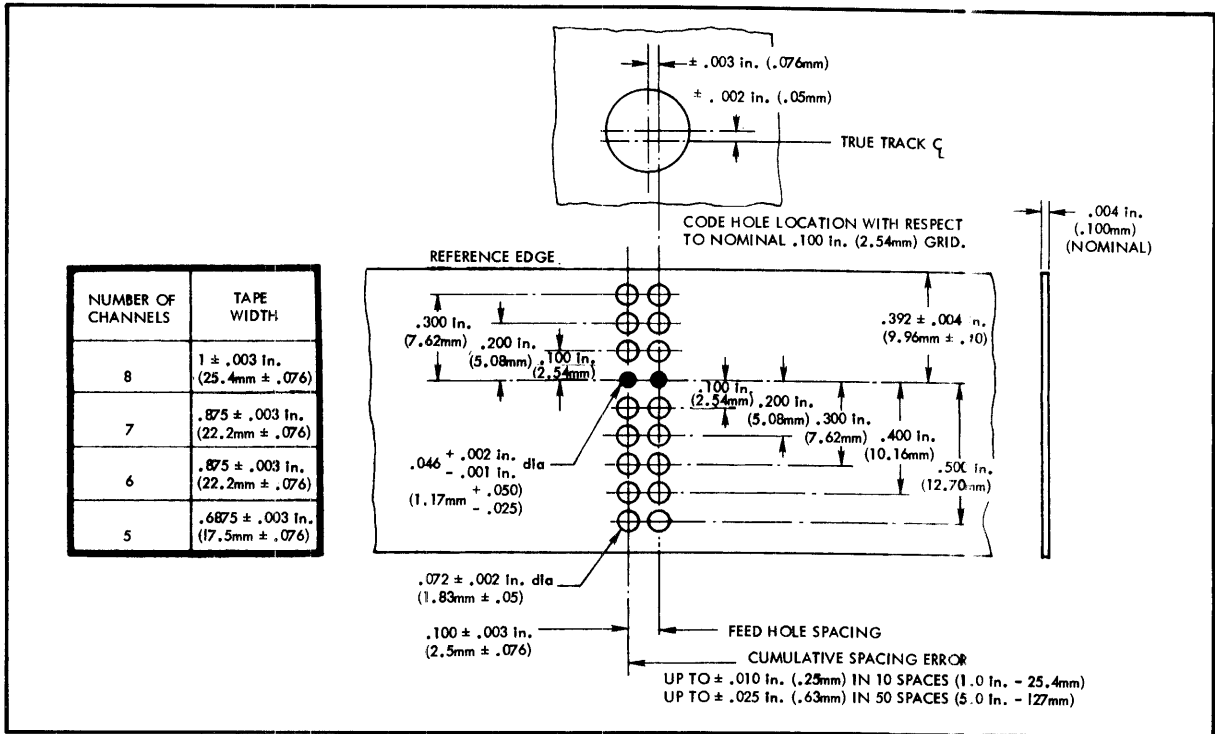

Figure 10
The Model 420 is designed to operate within the hole spacing requirements of the ANSI Specifications, as shown in Figure 10. Hole spacing may be defined in two areas: edge-to-hole (centerline of sprocket hole to three hole edge of tape), and hole-to-hole (ten holes per inch).
1. Run a short length of test tape. Measure edge-to-hole spacing, using a tape hole gage (Tally Part Number 4043401) to see that the sprocket hole centers are $.392 \pm .004$ inch (9.9 ± 1 mm) from the three hole edge of tape, as shown in Figure 10.